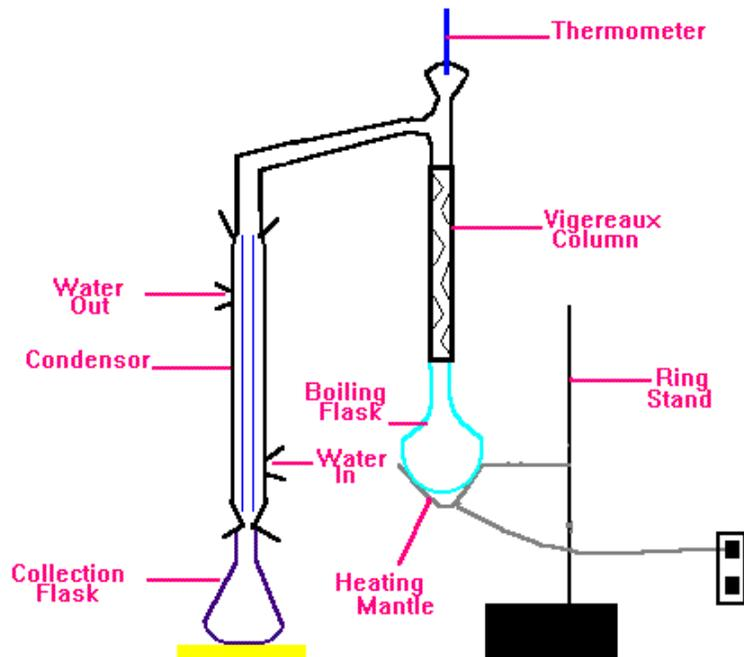

Figure 7.2.1 Distillation Apparatus
7.2.1 Double Distillation of Isoamyl Acetate-Assemble a distillation apparatus like the one below: (figure 7.2.1)